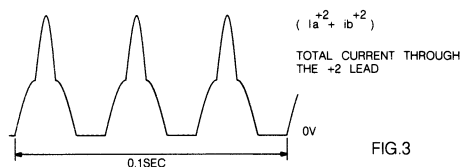

FIG. 3
6. With a disc on the turntable, put the set in service-loop 0. Switch S on and adjust the trimming potentiometer back in such a way that 3 complete pulses are visible during 0.1 sec. (fig. 3). The polarity of the oscilloscope must be chosen so that the tops of the pulses are in upward position.